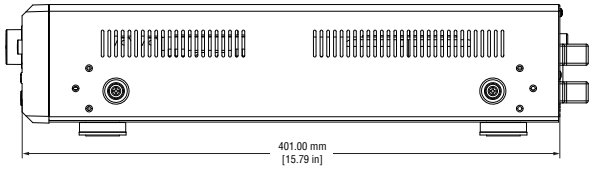

Figure 2.2.1 Dimensions
- Place a single amplifier on a surface with 12 inches of air space around the unit for convection cooling. Rubber feet are included and can be attached onto the underside of the chassis. For amplifier dimensions, see Figure 2.2.1.